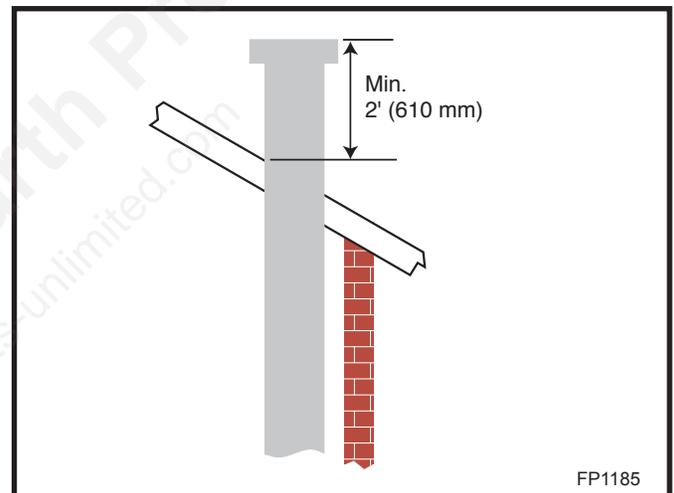

Fig. 32 Maximum termination to roof clearance.
- The minimum height of the vent above the highest point of penetration through the roof is 2' (610mm). (Fig. 32)
10. Add additional vent lengths for proper height. (Fig. 32)